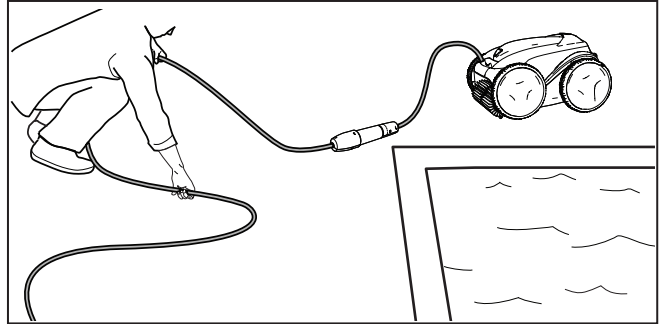

Figure 21. Untangle the Floating cable
1. Starting at the cleaner head. Remove all coils and tangles from the cable (see Figure 21).